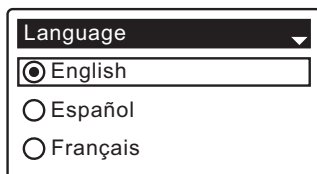

FIG. 15
- 1. LANGUAGE** If the desired language already has a black dot next to it (See Figure 15), go to Step 2. Otherwise, press the filter’s DOWN (▼) or UP (▲) buttons to scroll to the desired language, then press the SELECT (○) button to choose it.